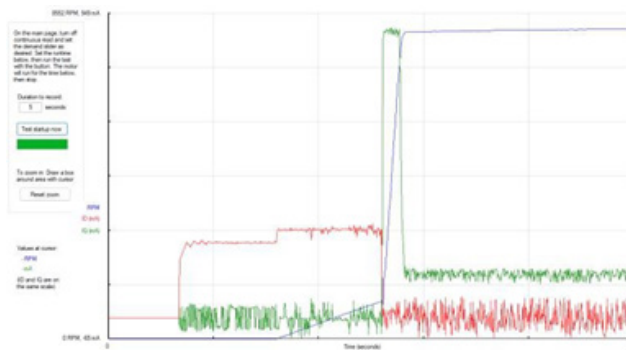

Figure 21:  $K_i$  Instabilities—GUI Plot (left) and Phase Current Plot (right)
- When  $K_i$  is too high, a ripple is observed in the D current, as shown for  $K_p = 2$ ,  $K_i = 8$  in Figure 21.